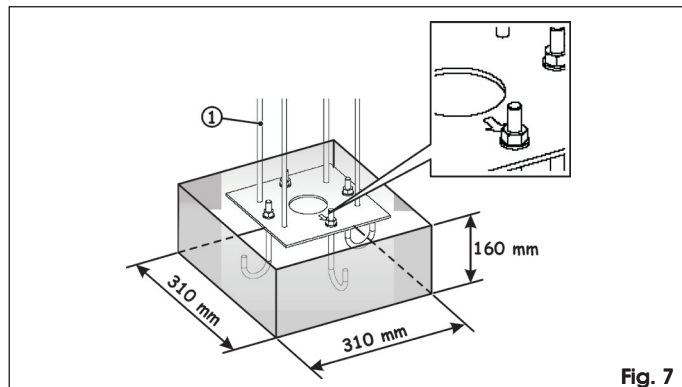

Fig. 7
2. Make a foundation plinth as shown in Fig. 7.
1. Screw the four supplied tie-rods, Fig.7 ref.①, in the respective holes, the ones with the welded nuts.
2. Wall the foundation plate as shown in Fig.7, supplying one or more sheaths for routing electrical cables.